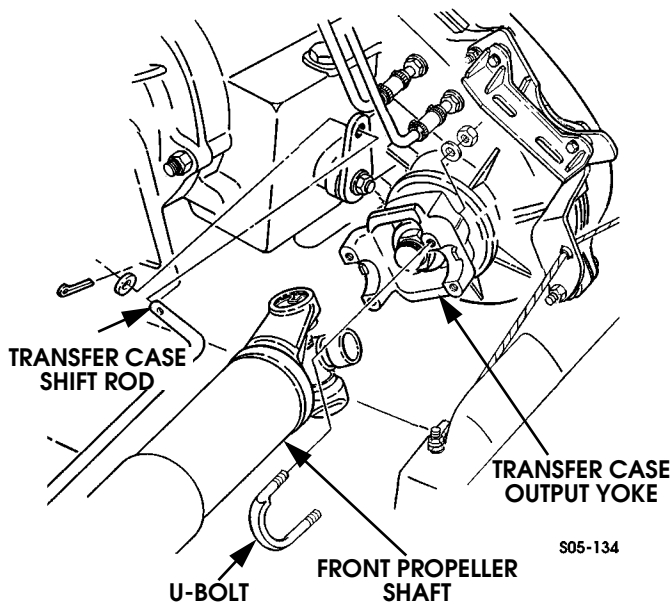

Figure 9-114: Front Propeller Shaft Attachment at Transfer Case
2. Remove U-bolt nuts and disconnect front shaft from transfer case output yoke (Figure 9-114).